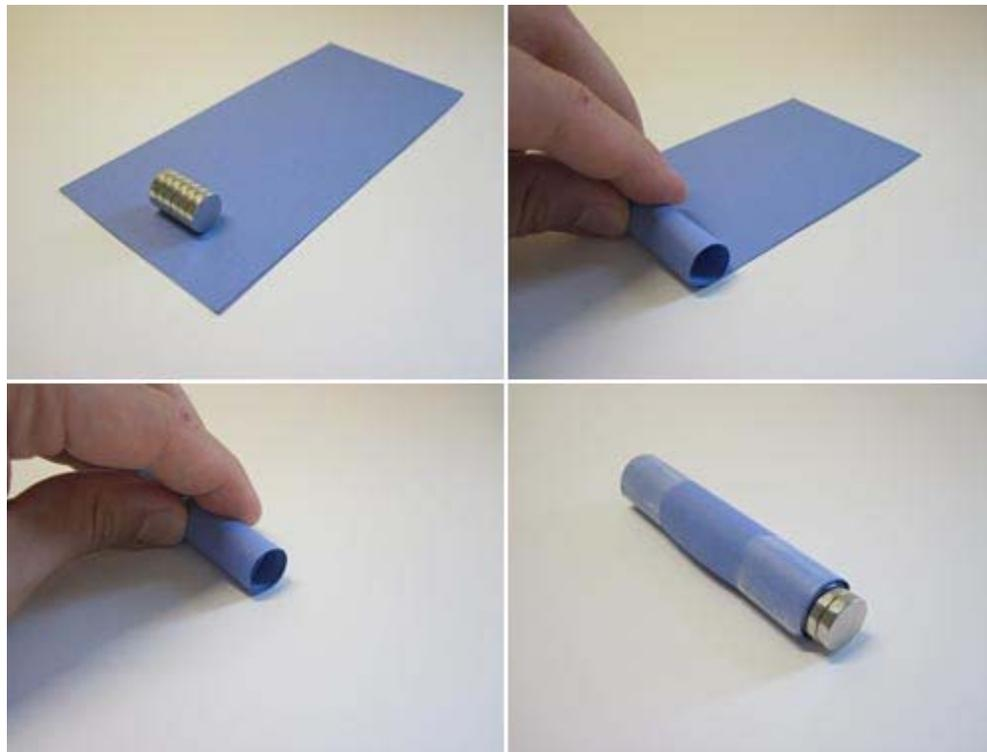

Figure 3. Roll a 7 x 15 cm piece of card stock into a tube, using the magnets as a guide.
- a. Cut a piece of card stock that is roughly 7 centimeters (cm) x 15 cm, as shown in Figure 3.
- b. Using all six magnets stacked together as a guide, roll the card stock *tightly* into a tube, as shown in Figure 3 (the resulting tube should be 7 cm long).
- c. Use Scotch tape to secure the tube in place, as shown in Figure 3.